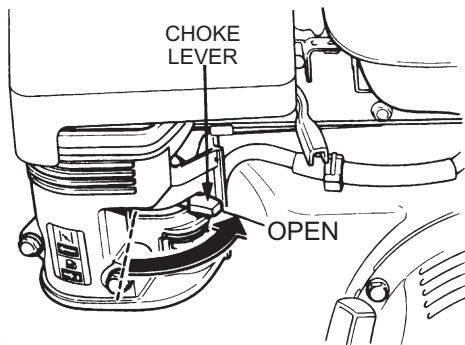

Figure 18. Choke Lever (Open)
8. If the choke lever was moved to the "CLOSED" position to start the engine, gradually move it to the "OPEN" position (Figure 18) as the engine warms up. If the engine has not started, repeat steps 1 through 6.